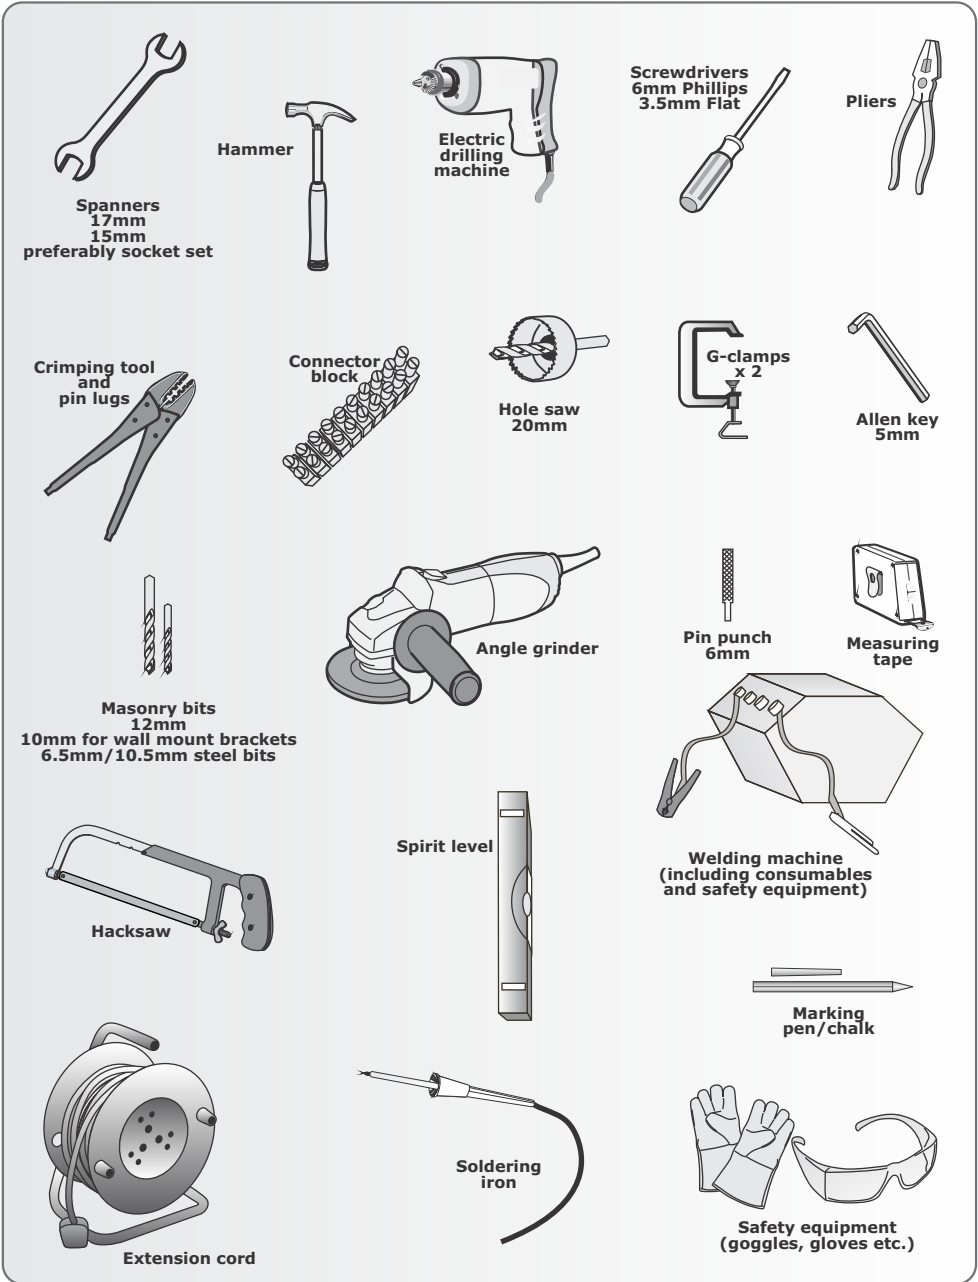

FIGURE 4
- Check that enough space is available for the gate operator with the gate in the required open position (see Figures 4 and 5)